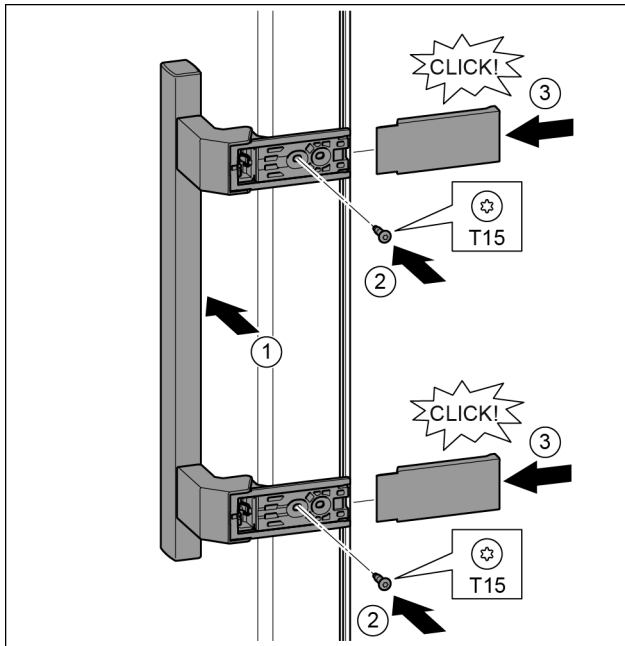

Fig. 37
- ▶ Position the handle on the other side. Fig. 37 (1)
- ▶ Tighten the screws with the T15 screwdriver. Fig. 37 (2)
- ▶ Position the covers on the side and push in. Fig. 37 (3)